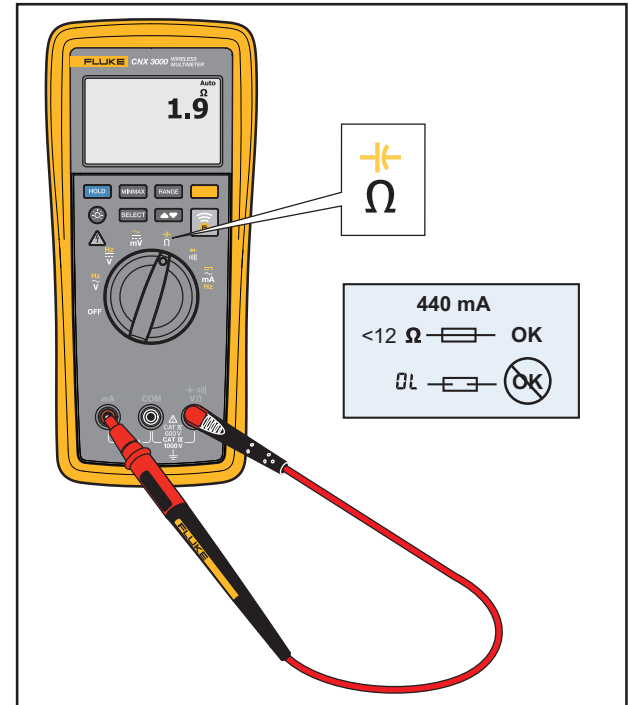

Figure 10. Fuse Test
2. Connect a test lead to the $\frac{\Omega}{\Omega}$ jack as shown in Figure 10.